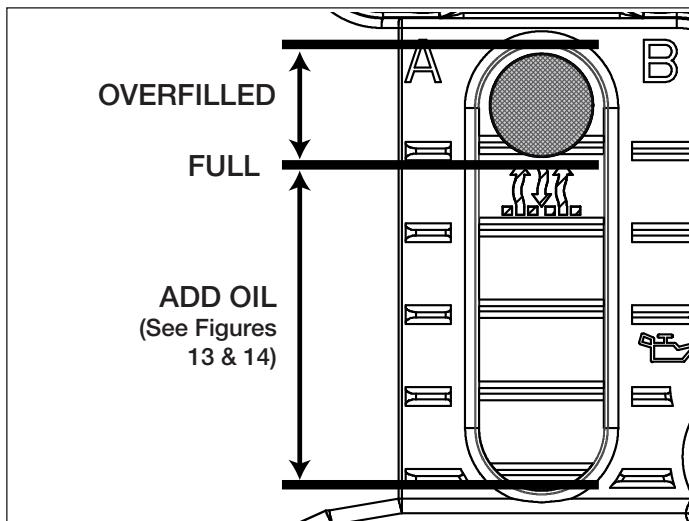

Figure 12, Oil Level Indicator
- Check the oil level indicator. Verify that the oil level is up to the full mark. Refer to Figure 12.
11. Check the oil level indicator. Verify that the oil level is up to the FULL mark and that the reservoir is not overfilled. Refer to Figure 12.